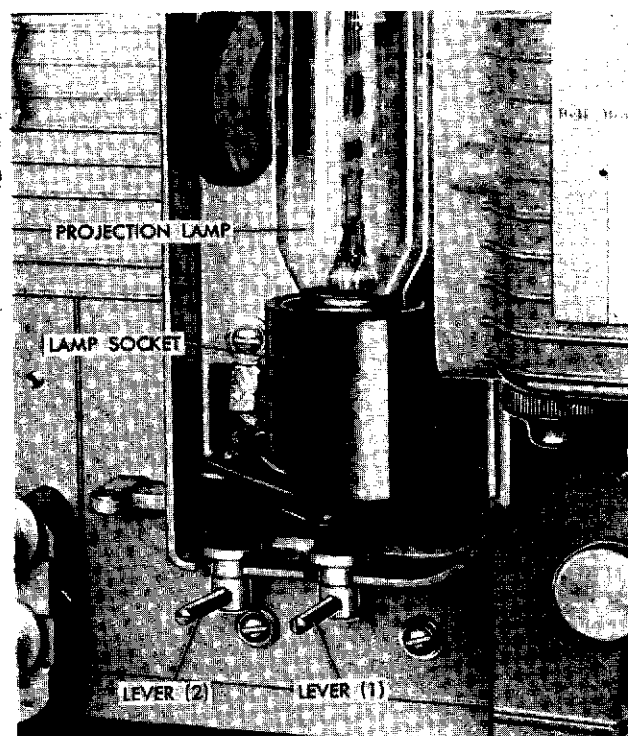

Figure 4-4. Projection Lamp Adjusting Levers
a. Adjustment levers (figure 4-4) are used to adjust the projection lamp to the most uniform illumination. Lamp adjustment lever (1) moves the lamp socket in and out. Lamp adjustment lever (2) moves the lamp socket backward and forward.